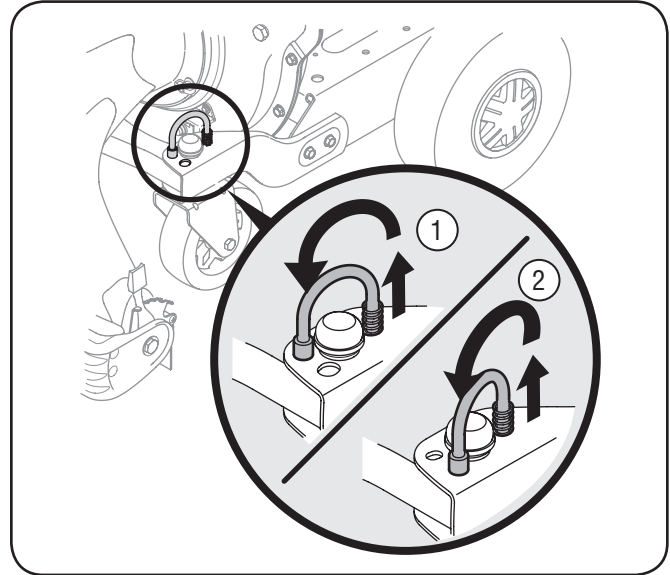

Figure 3-8
1. Place pins in smaller holes to allow casters to rotate freely for maneuvering around trees and flower beds. See Figure 3-8.